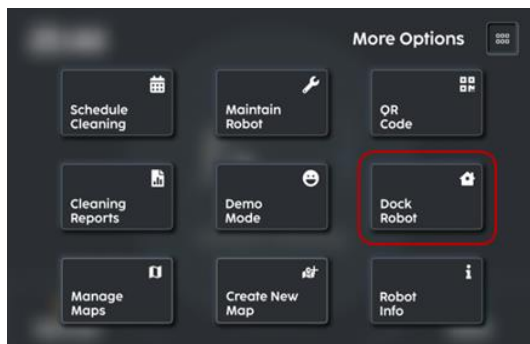

FIGURE 3-15
2. Select 'Dock Robot' (Fig. 3-15).
2. On the touch screen select 'Dock Robot' (Fig. 3-15).